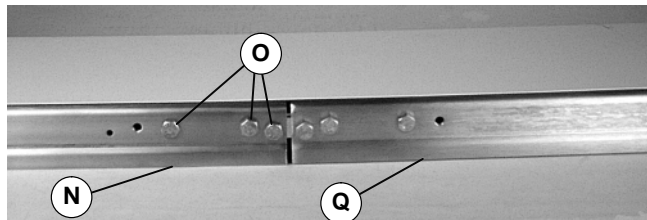

Figure 7
5. Join conveyor sections (N and Q of Figure 7). Install screws (O) on both sides. Tighten to 10.4 Nm.